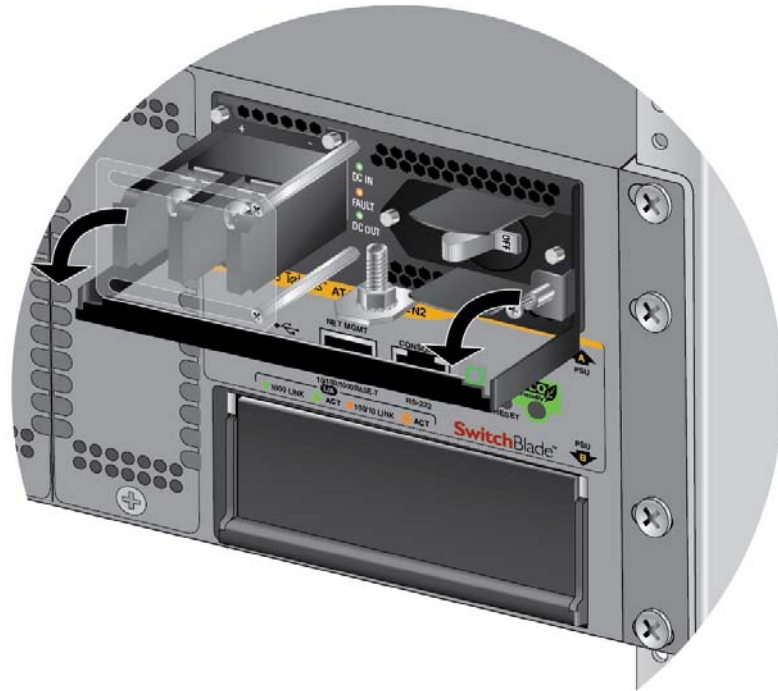

Figure 35. Lowering the Locking Handle on the AT-SBxPWRSYS1-80 DC Power Supply
7. Gently press on the faceplate of the power supply to seat the unit on the connector on the backplane of the chassis, and lower the locking handle to secure the unit in the chassis. Refer to Figure 35 on page 68.